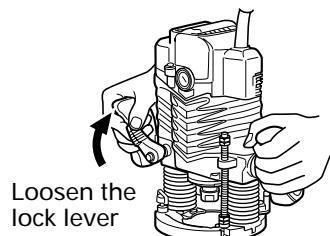
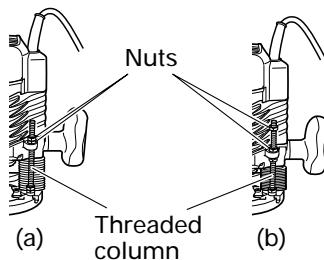

Fig. 4
Fig. 5
(1) Use stopper pole to adjust depth of cut.
① Place the tool on a flat wood surface.
② Turn the stopper block so that section to which the cutting depth setting screw on a stopper block is not attached comes to the bottom of the stopper pole. Loosen pole lock knob allowing the stopper pole to contact with stopper block.
③ Loosen the lock lever and press the tool body until the bit just touches the flat surface. Tighten the lock lever at this point. (Fig. 4)
④ Tighten pole lock knob. Align the depth indicator with the "0" graduation of scale.
⑤ Loosen pole lock knob, and raise until indicator aligns with the graduation representing the desired cutting depth. Tighten pole lock knob.
⑥ Loosen the lock lever and press the tool body down until the stopper block to obtain the desired cutting depth.
(2) As shown in Fig. 5 (a), loosening the two nuts on the threaded column and moving them down will allow you to move down to the end position of the bit when the lock lever was loosened. This is helpful when moving the router to align the bit with the cutting position. As shown in Fig. 5 (b), tighten the upper and lower nuts to secure the cutting depth.
(3) When you are not using the scale to set the cutting depth, push up the stopper pole so that it is not in the way.